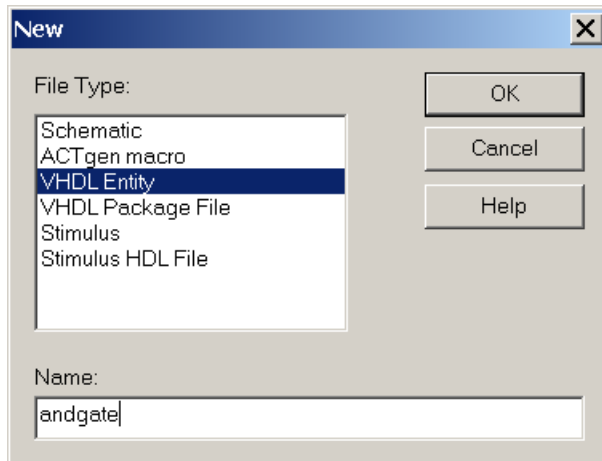

Figure 5-2. New File Dialog Box
8. From the File menu, click **New**. This opens the New dialog box, as shown in Figure 5-2.